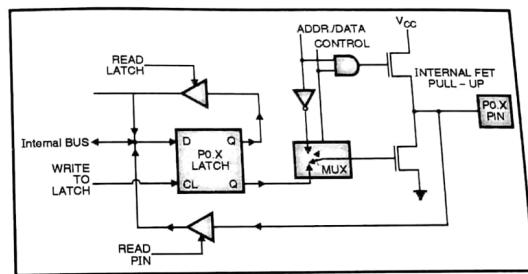

Fig. 3.3.1 : Port 0 circuit
- Port 0 is a multifunctioned port of microcontroller 8051. It can be used as simple input / output mode or for generating data and lower order address bus for external memory ( $AD_0 - AD_7$ ). Fig. 3.3.1 shows port 0 circuit.